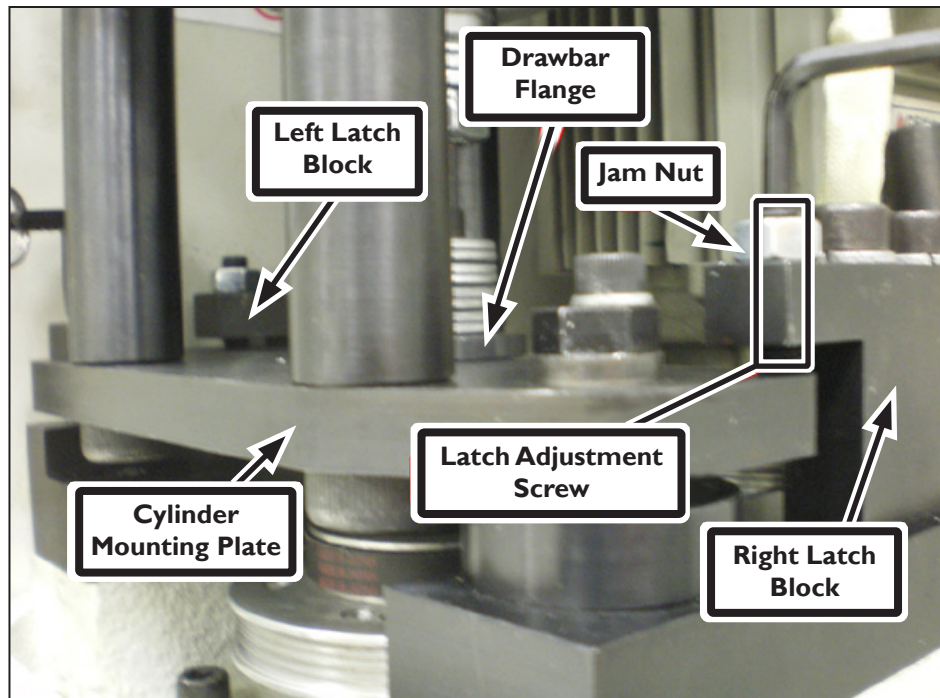

Figure 24
1. Make sure that the Latch Adjustment Screws are fully retracted into the left and right Latch Plate (see **Figure 24**).
5. Using a hex wrench, tighten the Latch Adjustment Screws until they just touch the Cylinder Mounting Plate (see **Figure 24**).